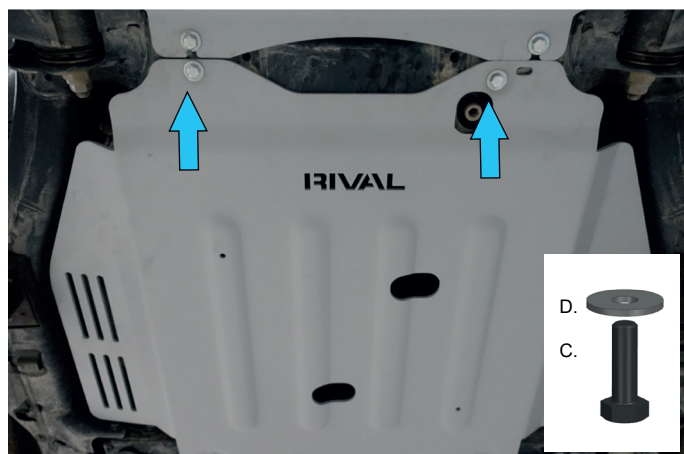

Fig. 9
9. Fix the front part gearbox skid plate using bolts M8x25 (item C) and washers 8 (item D), as shown in fig.9.